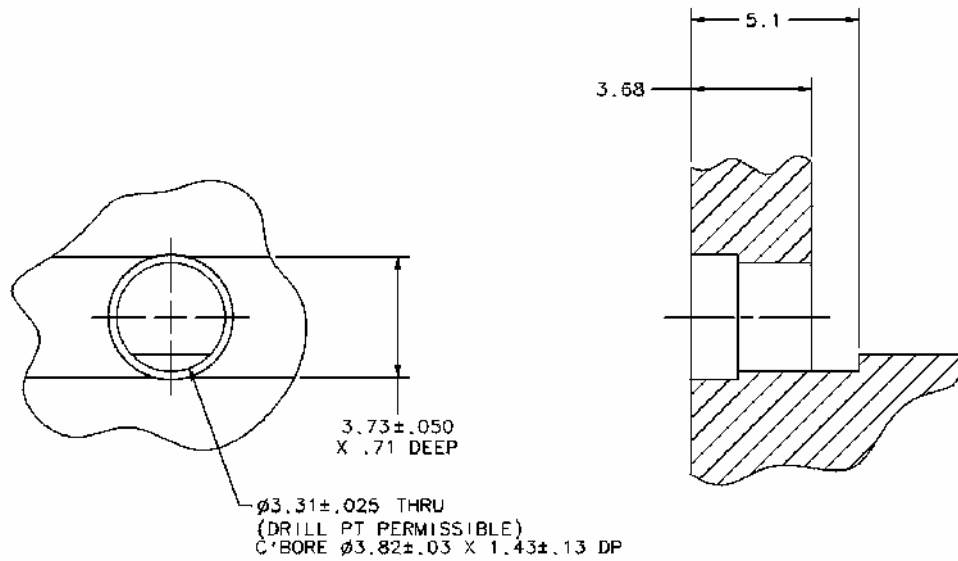

Figure 2. VP100BMS75 Mounting Hole Dimensions and Assembly for a Thick-Wall Housing
Machining dimensions for the shroud mounting hole are shown in Figures 2 and 3.
- For a thick-wall housing, place three to four solder washers on the counter-bore and place the shroud into the housing as shown in Figure 2.